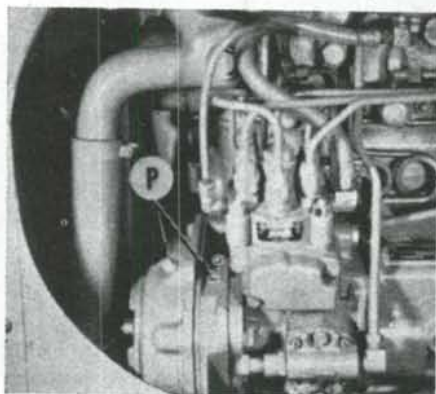
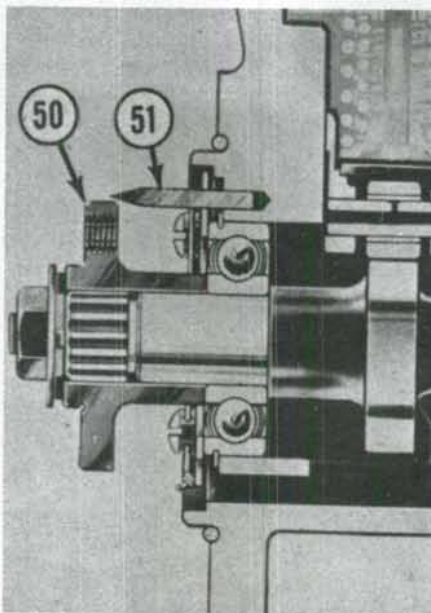
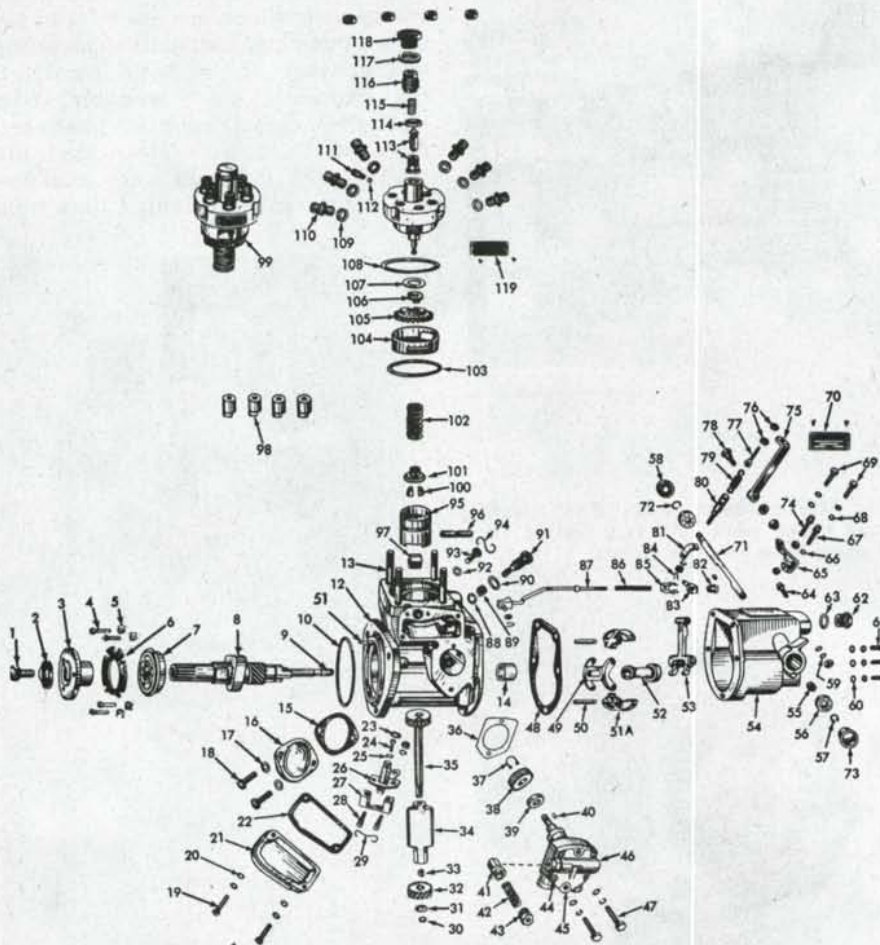

Fig. AC63—To view the Bosch model PSB injection pump timing marks, it is necessary to remove plugs (P).
Fig. AC63A—Bosch model PSB injection pump timing marks (50) is a line on edge of pump drive hub. The pointer is shown at (51).
Fig. AC64A — Partially exploded view of Bosch model PSB injection pump.
Crank the engine until No. 1 piston is coming up on compression stroke and the engine flywheel mark "FPI" is in the exact center of the timing hole. Remove plugs (P—Fig. AC63) so that the pump timing marks can be seen. If the pump timing is correct, the line mark (50—Fig. AC63A) on the drive gear hub will be in register with the pointer (51) extending from the front face of the pump. If the timing marks are not in register, remove the cover from front of the
hydraulic head. Remove the timing window cover (21—Fig. AC64A) and crank engine until the line mark on the apex of one of the teeth on the pump plunger drive gear is in register with the "O" mark or arrow stamped on the lower face of the timing window hole as shown in Fig. AC64B. Remove the two screws and carefully withdraw the control assembly, being careful not to lose plunger sleeve pin (24—Fig. AC64A). Unscrew and remove lube oil filter (91). Remove the hydraulic head retaining stud nuts and carefully withdraw the hydraulic head assembly from the pump housing. Do not use force when attempting to withdraw the hydraulic head. If difficulty is encountered, check to make certain that the plunger drive gear is properly positioned as shown in Fig. AC64B.
in Fig. AC64B and that open tooth on quill shaft gear is in register with punch mark in pump housing as shown at (A) in Fig. AC65. When installing the control sleeve assembly, the plunger sleeve pin (24—Fig. AC64A) must be lined up with the slot in the control block. The remainder of the reassembly procedure is evident.
152A. To install the injection pump, first make certain that the flywheel mark "FPI" is in the exact center of the timing hole when No. 1 piston is coming up on compression stroke. Loosen the three pump drive gear retaining cap screws. Remove the timing window cover (21—Fig. AC64A) from side of pump housing. Turn the pump hub until the line mark on the apex of one of the pump plunger drive gear teeth is approximately in the center of the timing window. Then, continue turning the hub until the line mark (50—Fig. AC63A) on the drive gear hub is in register with the pointer (51) extending from the front face of the pump. Mount the injection pump on the engine. The pump drive gear should be meshed with the camshaft gear so that the three drive gear retaining cap screws are approximately in the center of the elongated drive gear holes when the
153B. The low idle speed of the engine is controlled by the position of the throttle lever and is adjusted by placing the throttle in the idle position and adjusting the idle stop screw (74—Fig. AC64A) to give 600-650 rpm at low idle.